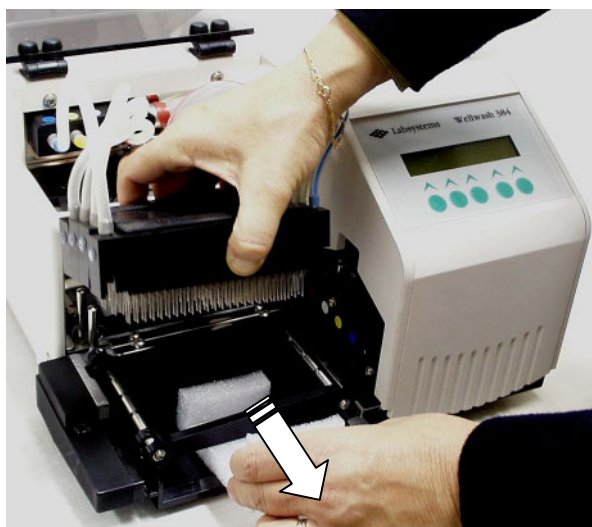

Fig. 5.5 Removing the lower wash head protection foam
7. Lift up the wash heads sufficiently (Fig. 5.5). Hold the wash heads firmly to prevent them from dropping.
8. Carefully remove the lower foam blocking the wash head (Fig. 5.5).